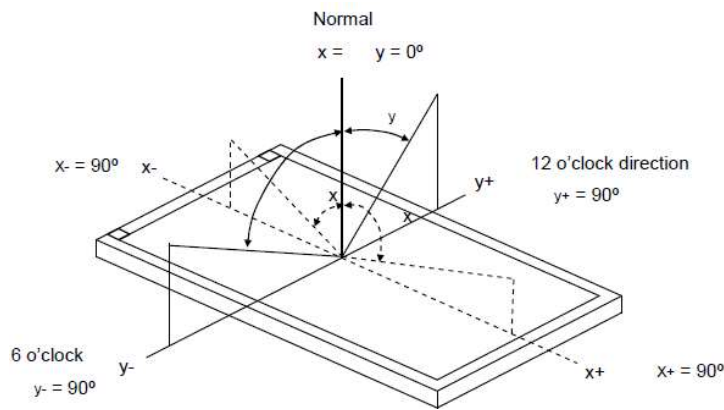

Figure 8. Definition of Viewing angle
(6) Definition of Viewing angle:
As Note (4) the static contrast ratio definition, the viewing angles are defined at the angle that the contrast ratio is larger than 10 at four directions relative to the perpendicular direction of the HKC's module (two vertical angles: up θ_{y+} and down θ_{y-} ; and two horizontal angles: right θ_{x+} and left θ_{x-}). The standard setup of measurement is shown in Figure 8 & 9.